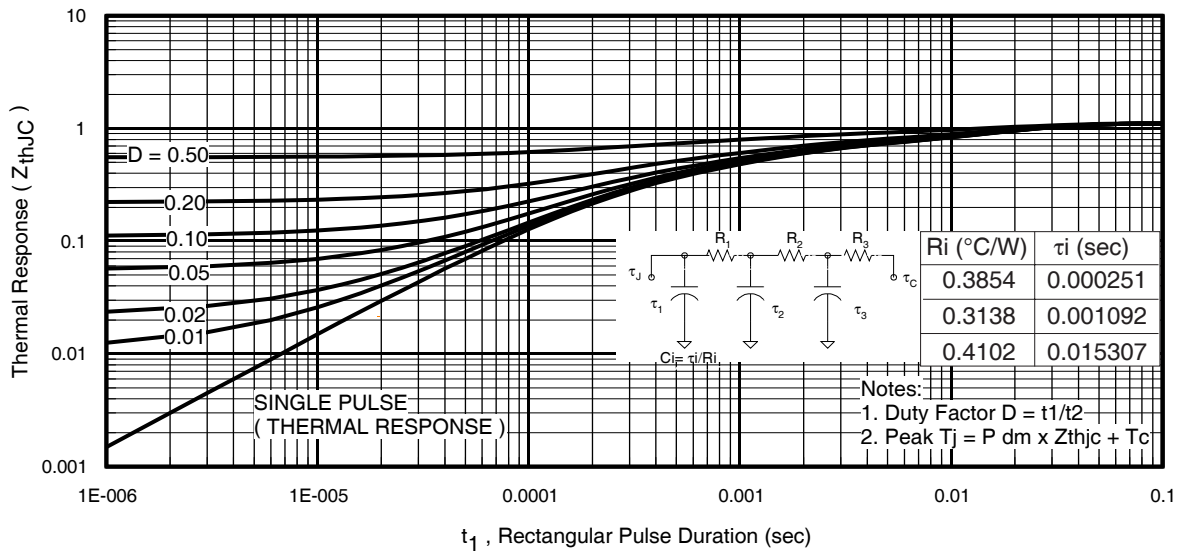
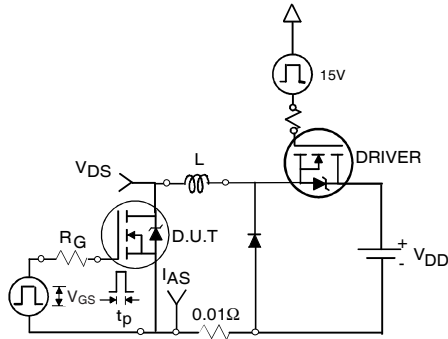

Fig 11. Maximum Effective Transient Thermal Impedance, Junction-to-Case
Fig 12a. Unclamped Inductive Test Circuit
3. Equation below based on circuit and waveforms shown in Figures 12a, 12b.
$Z_{thJC}(D, t_{av})$ = Transient thermal resistance, see figure 11)
- ① Repetitive rating; pulse width limited by max. junction temperature. (See fig. 11).
- ② Limited by T_{Jmax} , starting $T_J = 25^\circ C$, $L = 0.13mH$, $R_G = 25\Omega$, $I_{AS} = 42A$, $V_{GS} = 10V$. Part not recommended for use above this value.
- ③ Pulse width $\leq 1.0ms$; duty cycle $\leq 2\%$.
- ④ C_{oss} eff. is a fixed capacitance that gives the same charging time as C_{oss} while V_{DS} is rising from 0 to 80% V_{DSS} .
- ⑤ Limited by T_{Jmax} , see Fig.12a, 12b, 15, 16 for typical repetitive avalanche performance.
- ⑥ This value determined from sample failure population. 100% tested to this value in production.
- ⑦ When mounted on 1" square PCB (FR-4 or G-10 Material). For recommended footprint and soldering techniques refer to application note #AN-994
- ⑧ R_θ is measured at T_J approximately $90^\circ C$